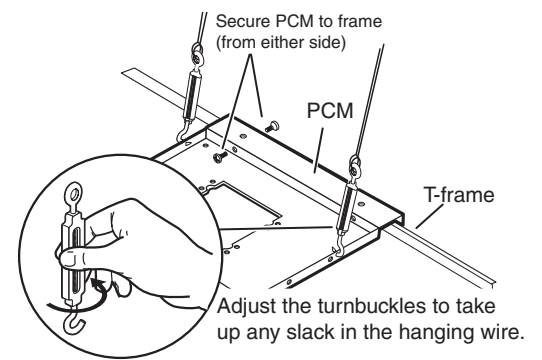

Figure 6. Adjust the Turnbuckles.
- f. Loop the safety cable through the center anchor or lag eye bolt, attach it to the plate center holes (figure 6) and secure it with the cable clamps.
- h. Tighten the turnbuckles by hand (see figure 6), and level the plate so that it just rests on the grid.